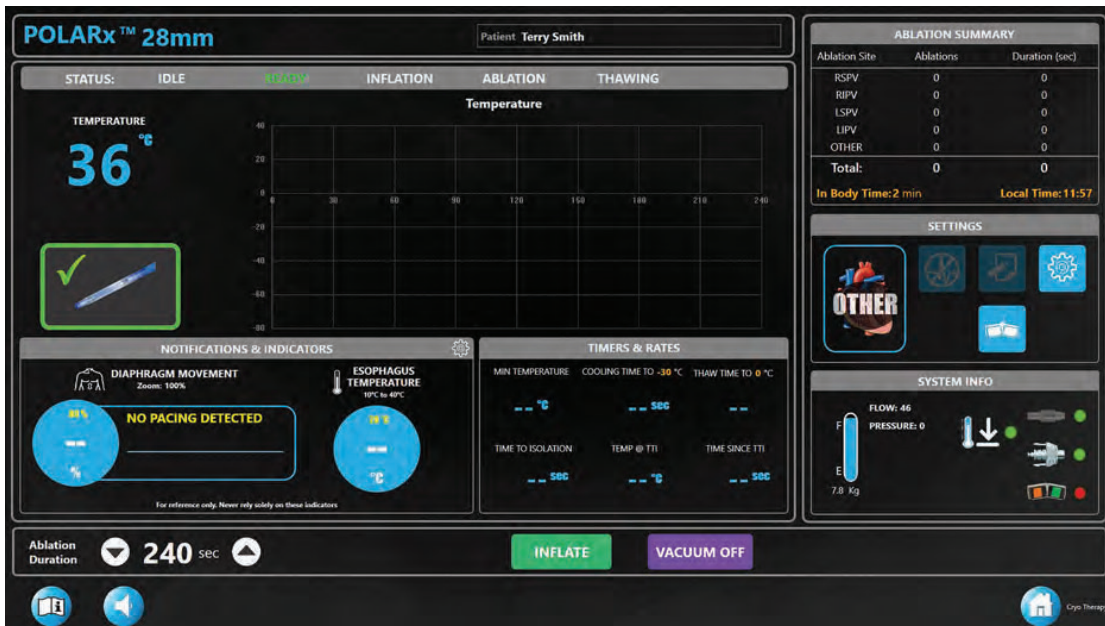

Figure 6. Therapy screen—READY state
3. The system status should indicate **READY** and the **INFLATE** button on the Therapy screen should appear (Figure 6). In addition, the **START** pushbutton on the SMARTFREEZE Console front panel and the indicator on the Remote Control, if used, should be illuminated green.